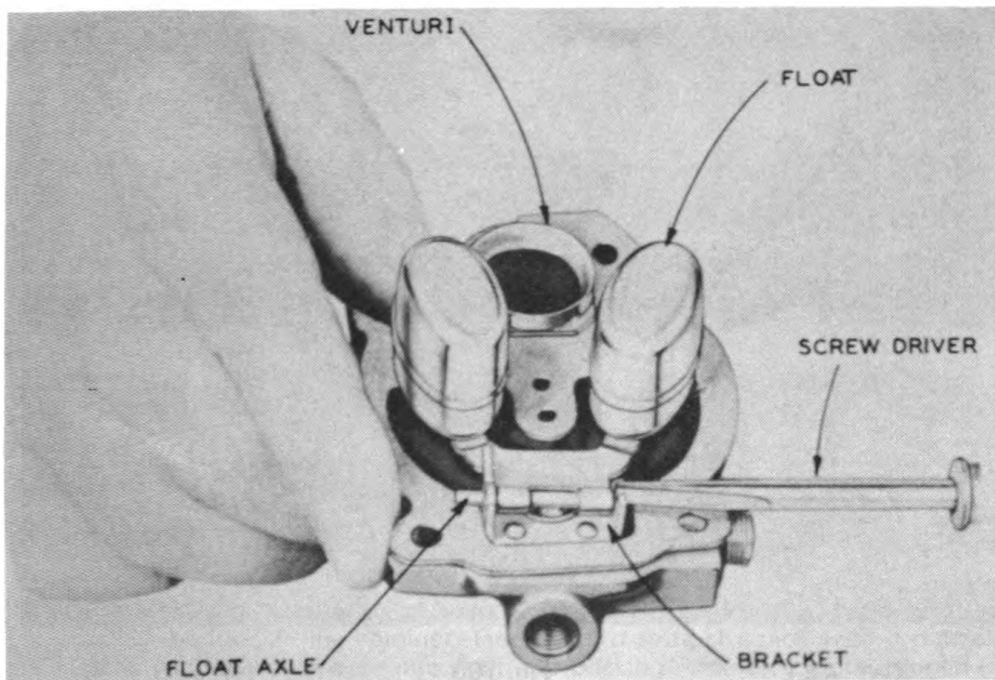

Fig. 104
7. Remove the float axle using a screwdriver to push the axle from the slotted end of the bracket, and the fingers to remove it the rest of the way. (Fig. 104)
21. Install float axle using the handle end of a screwdriver to strike the end of the axle to force it into the slotted end of the bracket. The float should move freely on the axle. (Fig. 104)